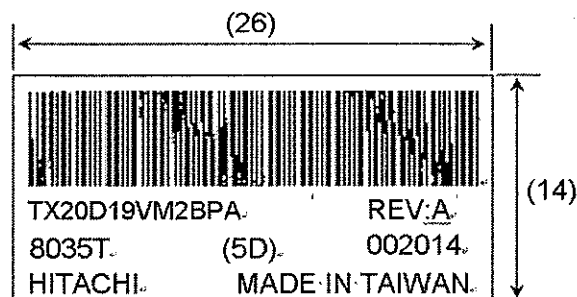

Fig 14.3
- 1) The lot mark is showing in Fig.14.3. First 4 digits are used to represent production lot, T represented made in Taiwan, and the last 5 digits are the serial number.
- 4) The location of the lot mark is on the back of the display shown in Fig. 14.3.